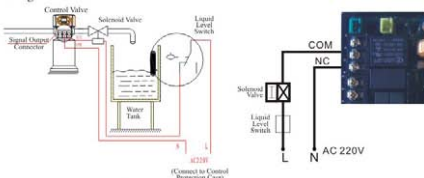

Figure3-1 Wiring of Solenoid Valve on Outlet
**Instruction:** If system strictly require no hard water flow from outlet in regeneration cycle( Mainly for no hard water flow out when valve is switching or valve in backwash or brine drawing positions), a solenoid valve could be installed on outlet, the wiring refer to Figure 3-1.